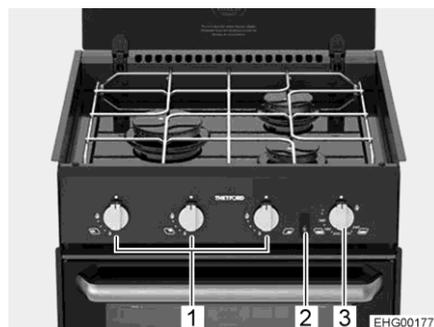
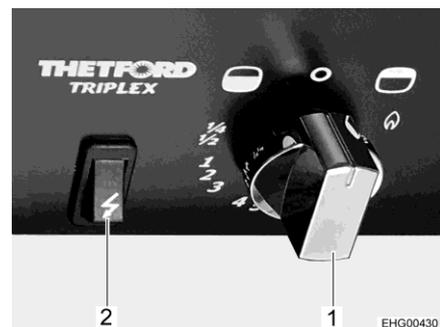

Fig. 157 Cooker with gas burners
Fig. 158 Operating controls (gas oven with grill)
- Press control knob (Fig. 157,1) of the desired burner, turn it to the ignition position (large flame), and hold it until the flame is burning (for a maximum of 15 seconds).
- Press the control knob (Fig. 157,3 and Fig. 158,1) and set it to the maximum setting anticlockwise (towards the oven symbol "🔥").
- Press the control knob (Fig. 157,3 and Fig. 158,1) and hold it down for 5 to 10 seconds. Gas will stream into the burner.
- Keep the ignition switch (Fig. 157,2 and Fig. 158,2) pressed until the flame burns.
- Press the control knob (Fig. 157,3 and Fig. 158,1) and turn it clockwise (towards the grill symbol "☀") in the direction of the flame symbol.
- Turn control knob (Fig. 158,1) to "O". The flame fades.